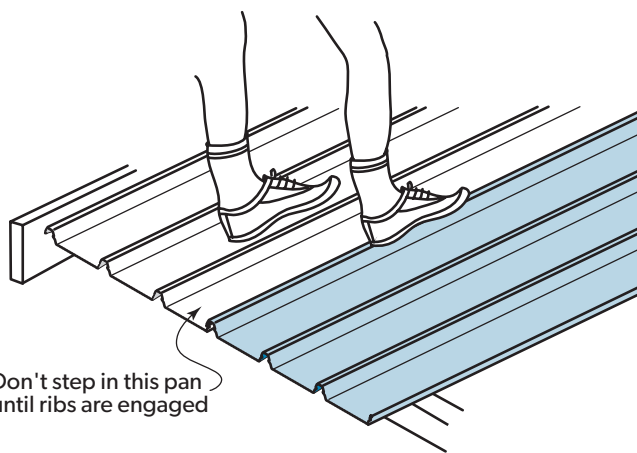

Figure 9.1.5
- 12 Fully engage the two sheets along the overlapping rib. You can do this by walking along the full length of the sheet with one foot in the centre pan of the previous sheet and the other foot applying vertical pressure to the top of the interlocking ribs at regular intervals. It is important that you don't walk in the unsupported pan beside the overlap. (Figure 9.1.5)